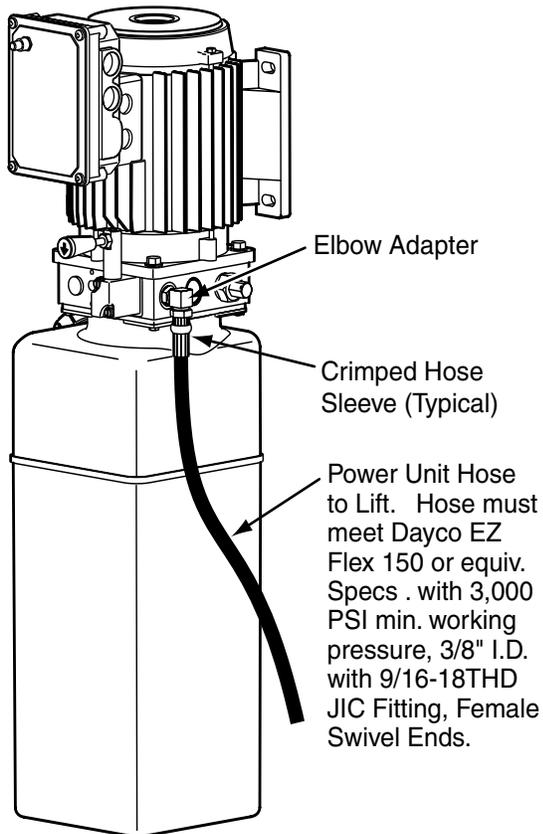

Fig. 11
- E. Install and hand tighten elbow adapter to pump until O-ring is seated, Fig. 11. Continue to tighten the locknut to 10-15 ft.-lbs., or until the nut and washer bottom out against the pump manifold. NOTE: You may still be able to rotate the Branch Tee. This is acceptable unless there is seepage at the O-ring. If so, slightly tighten the locknut.
2. Hose must be free of debris. Inspect all threads for damage, Fig. 11.